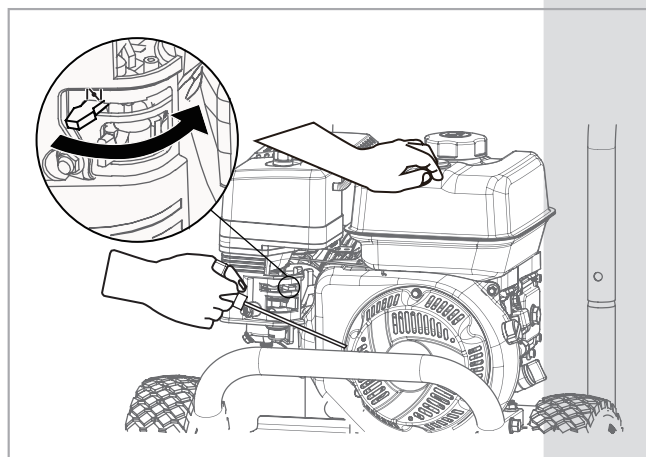

Fig 14
7. Once the engine starts, slowly slide the CHOKE lever to the OFF position. (Fully Right). Fig 14